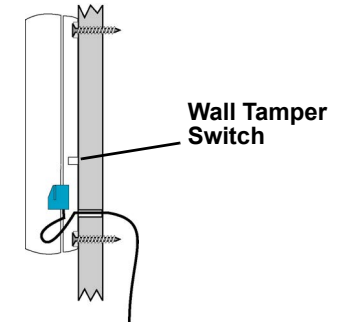

Figure 2 Mount the transmitter to the wall
1. Route the external wiring through the wall, as shown in Figure 2.